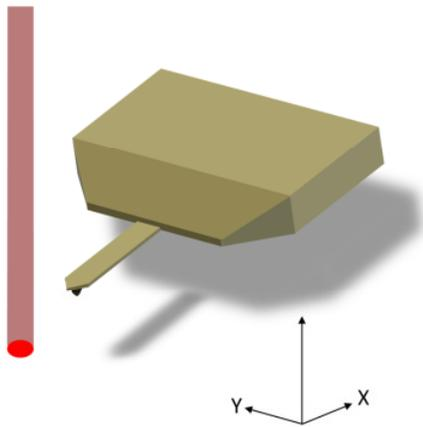

Figure 8: Laser spot is completely visible: Typically, it is in front of the cantilever substrate. Possibly it might be left or right of the substrate.
- 3.2. Deflect the beam in way that its complete shape becomes visible on the paper, as illustrated in Figure 8